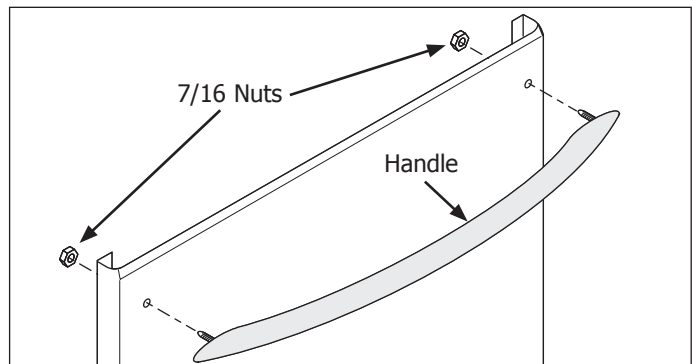

Figure 4-3.
3. Using a 7/16" socket or wrench, remove the nuts from the handle mounting studs. Pull handle from outer door panel. (See Figure 4-3)